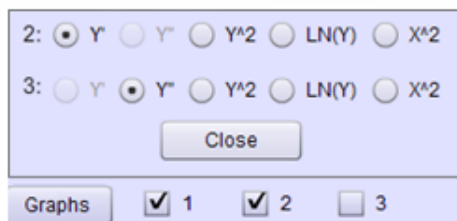

Figure 7
- a In Grapher, add Graphs 2 and 3 by clicking the check boxes below the data table (Figure 7).